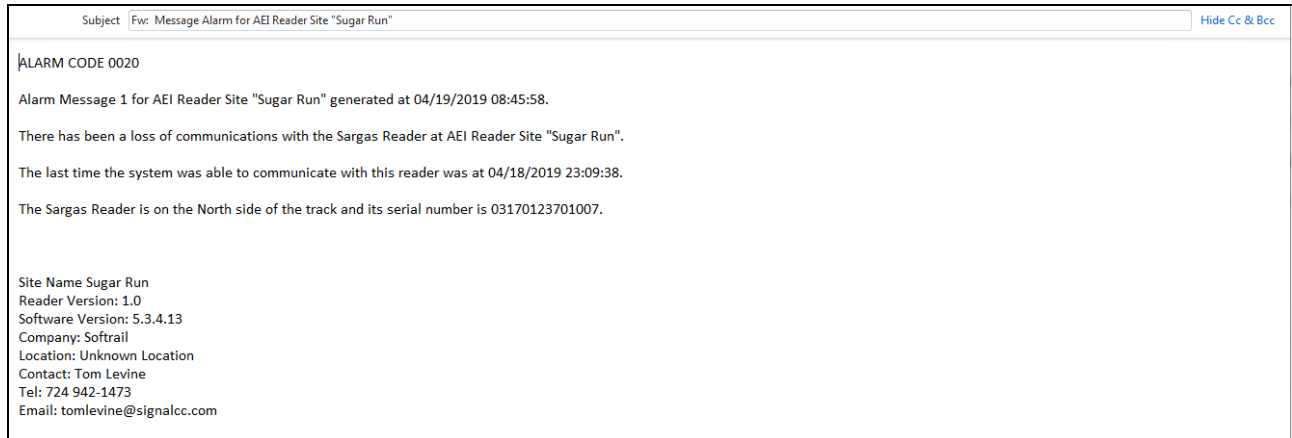

Figure 18 - Alarm Email
- Alarm messages with information about the health of the Spartan Reader System, AEI tags on individual rail vehicles, orientation issues. An example can be found in Figure 18.